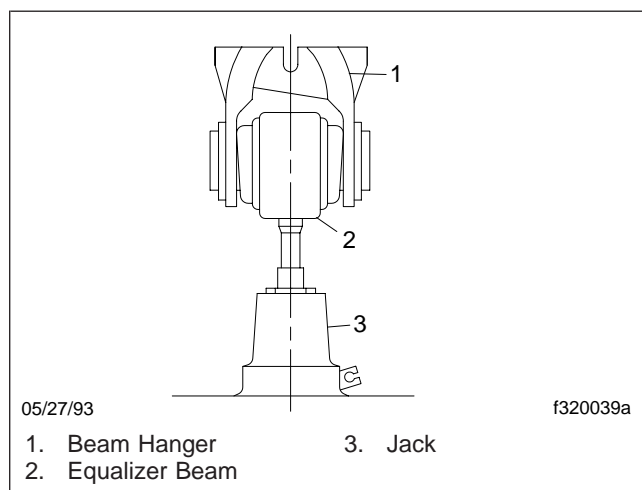

Fig. 5, Raising the Hendrickson Suspension Beam End
3. Check that the ends of the equalizer beam are not lower in the beam hanger. If the equalizer beam ends appear lower, use a jack to raise each beam end, and check for movement of the inner metal of the rubber end bushing. See **Fig. 5**. Movement cannot be corrected by tightening the fastener, because parts could be damaged. If there is movement, replace the rubber end bushings and all connecting parts. See **Group 32** of the *Heavy-Duty Trucks Service Manual* for instructions.